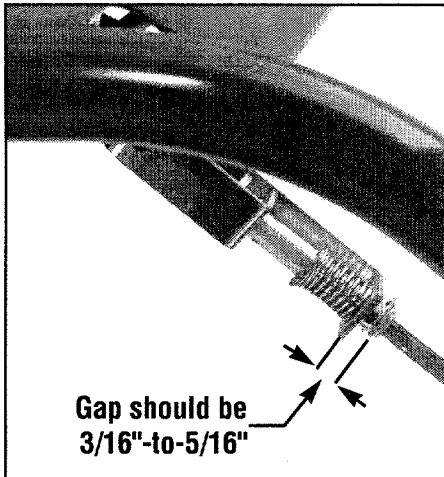

Figure 2-11: While squeezing Forward Clutch paddle, measure gap between end of bracket and E-ring.
- (b) While squeezing the paddle, measure the gap between the E-ring and the lower end of the clutch rod bracket (see Figure 2-11). The gap should be 3/16" to 5/16". NOTE: A stack of five pennies is approximately 5/16" thick.
- (1) First check that the Forward Clutch rod is in the correct hole in the clutch swivel plate. If not, reposition the rod and repeat Step 5b.
- (2) If the Forward Clutch rod is in the correct hole and the gap is incorrect, you will need to adjust the length of the Forward Clutch rod. To do this, first release the Forward Clutch paddle and then disconnect the rod from the clutch swivel plate.